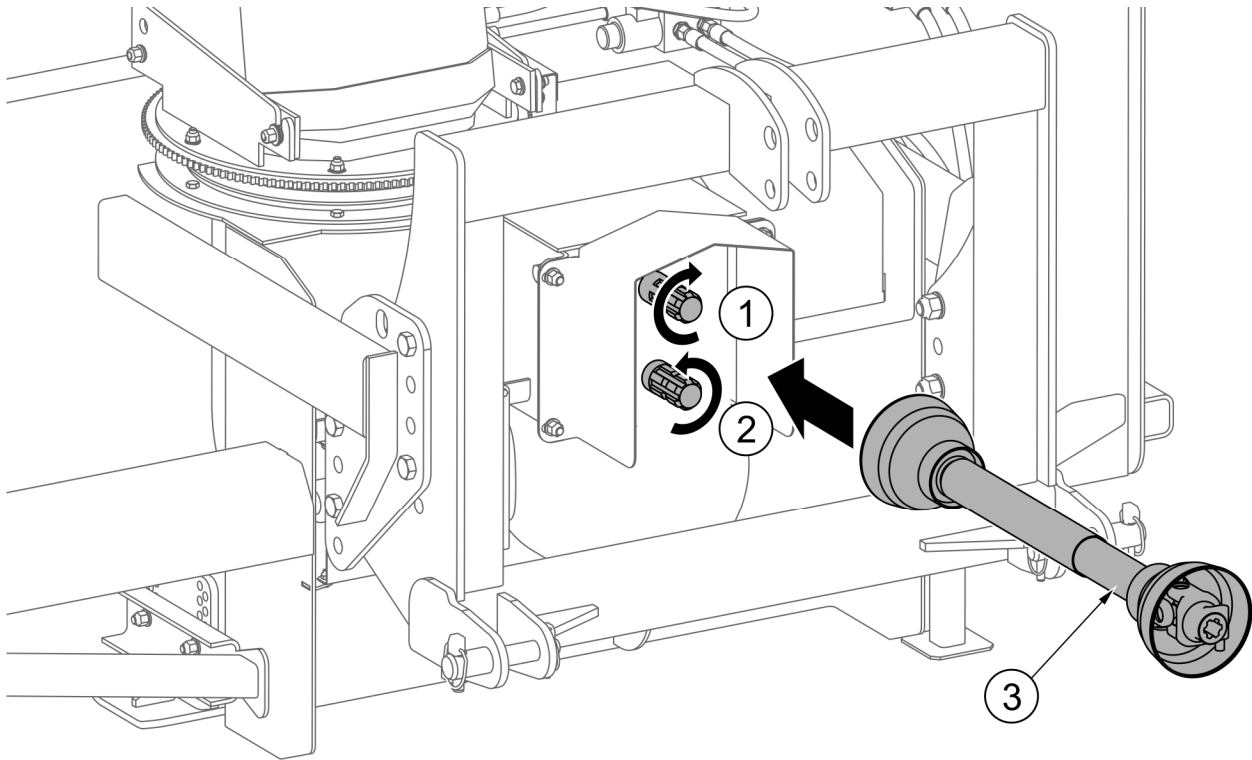

FIG. 4.3 Connecting PTO drive shaft
(1) - 1 000 rpm PTO shaft, rotation to the right; (2) - 540 rpm PTO shaft, rotation to the left; (3) - PTO drive shaft (optional equipment)
Depending on rotation direction and rotation speed of PTO shaft and the method of connecting to the carrying vehicle, PTO drive shaft (3) should be connected to the appropriate PTO shaft (1) or (2) of the transmission (FIG. 4.3). PTO shaft (1) rotates to the right at the rotation speed of 1 000 rpm, whereas PTO shaft (2) rotates to the left at the rotation speed of 540 rpm (*looking at the shaft front*).